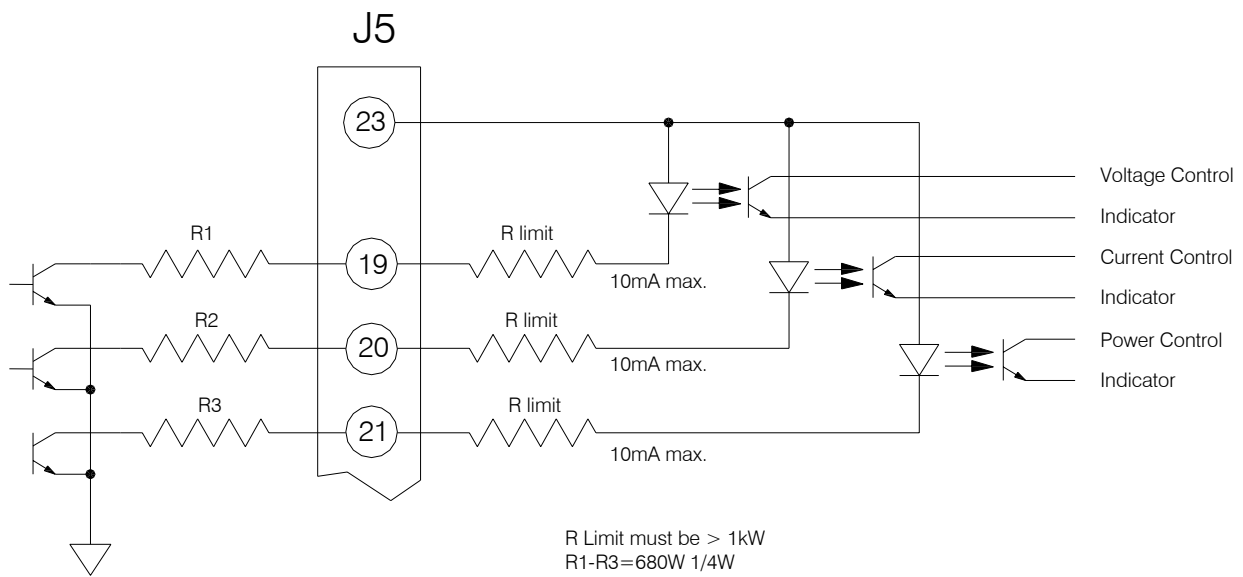

Figure 3.8 – Remote Mode Indicators Interface
- **REMOTE MODE INDICATORS:** Signals are provided for remote indication of the control mode status, voltage control, current control, and power control. See Figure 3.8 for the recommended interface.